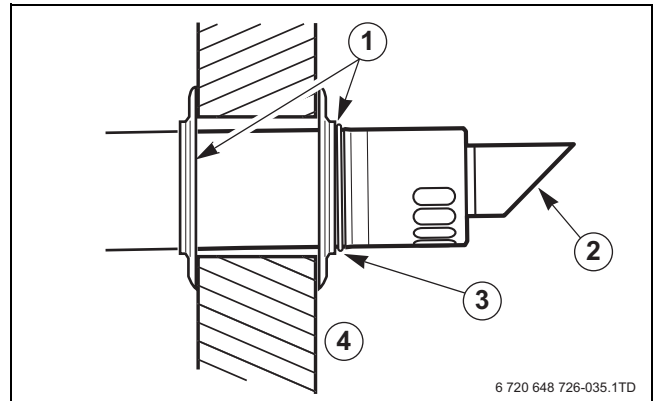

Fig. 35 Flue terminal position
- ▶ Mark off the lengths shown onto the pipe and cut to length. The cuts must be square and free from burrs. Terminal assembly outer (air) pipe - L-70 mm, inner (flue) pipe - L-50 mm. The measurement is made from the ridge at the terminal indicating the outer face of the wall. Refer to figure 35. Extension outer flue - L-70 mm, inner flue - L-50 mm. The measurement is from the formed end.
- ▶ Assemble flue system completely. Push the flue fully together. The slope of the terminal outlet must face downwards (→ fig. 35, item 1). The assembly will be made easier if a solvent free grease is lightly applied to the male end of the flue.